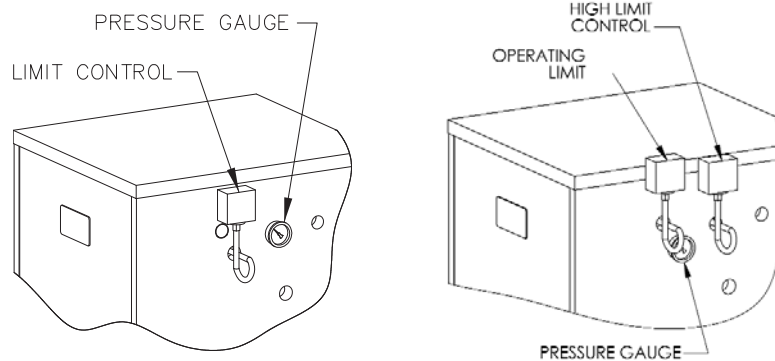

Figure 6.5: Limit Control Installation
6. Limit Control(s): (Figure 6.5)